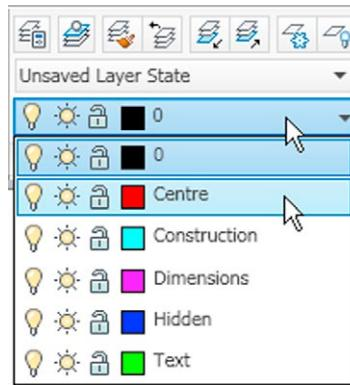

Fig. 7.5 Making the layer **Centre** current from the **Home/Layers** panel
4. In the **Home/Layers** panel in the **Layer** list click on **Centre** to make it the current layer (Fig. 7.5). All lines will now be drawn as centre lines.